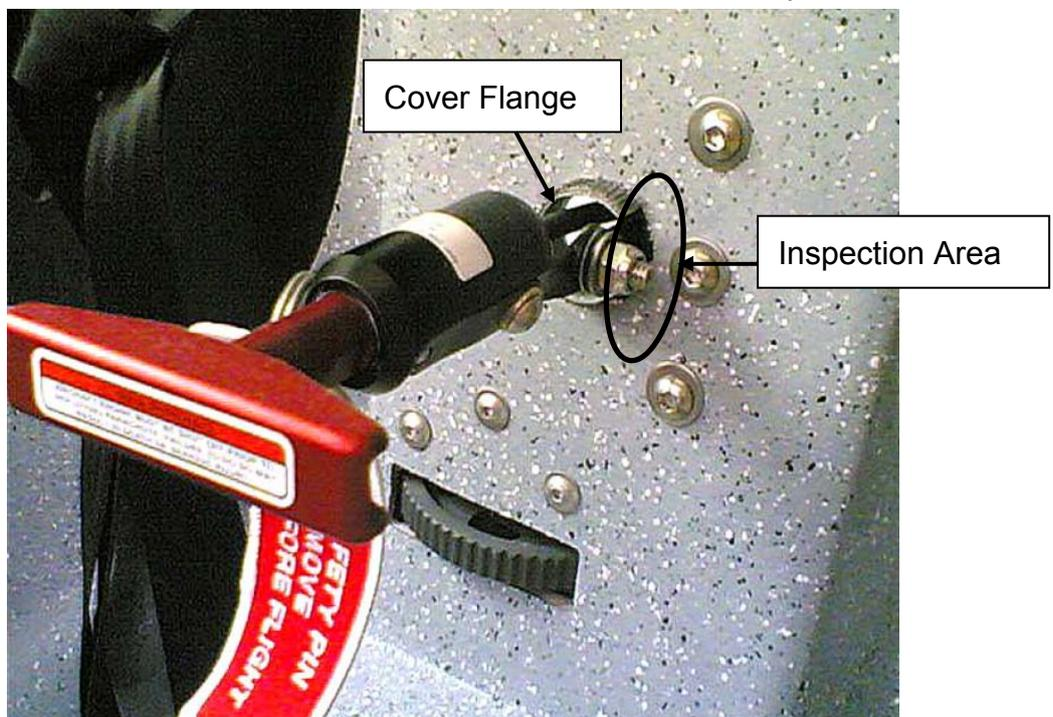

Fig. 4
- Continue inspection from cabin side. The cover flange identified in Fig. 4 may hinder good access. In case of doubt, remove the bracket and conduct the inspection disassembled.